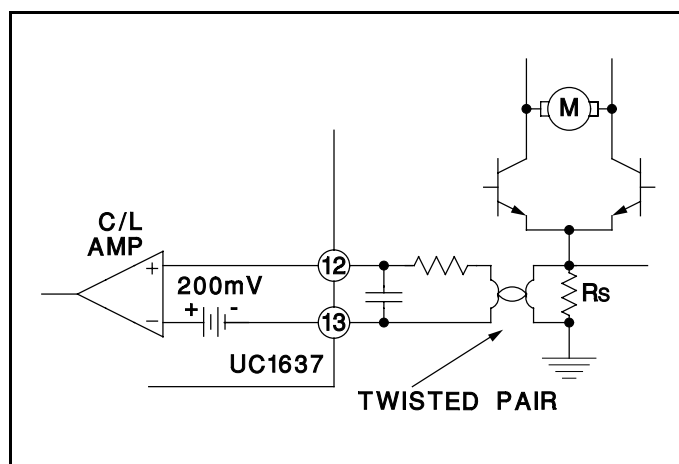

Figure 6. Current Limit Sensing
- V_s to within 3V of the + V_s supply while providing excellent noise rejection. Figure 6 shows a typical current sense circuit.